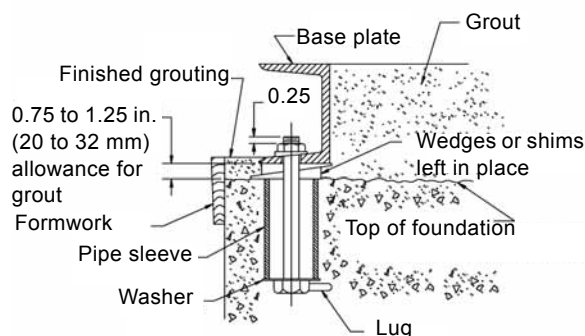
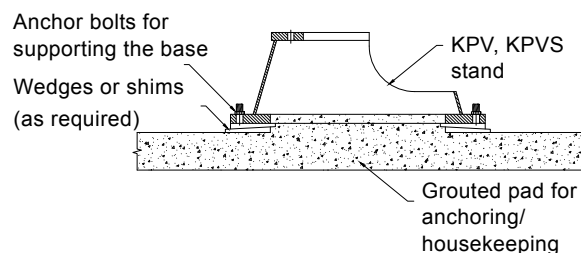

Fig. 5 KP anchor bolt installation
Fig. 6 KPV, KPVS anchor bolt installation
3. Place anchor bolts in pipe sleeves for positioning allowance. See fig. 5 and fig. 6.
6. Construct a formwork around the concrete foundation and pour grout inside and around the base plate. See fig. 5 for KP and fig. 6 for KPV, KPVS. The grout will compensate for uneven foundation, distribute the weight of the pump, and prevent shifting.